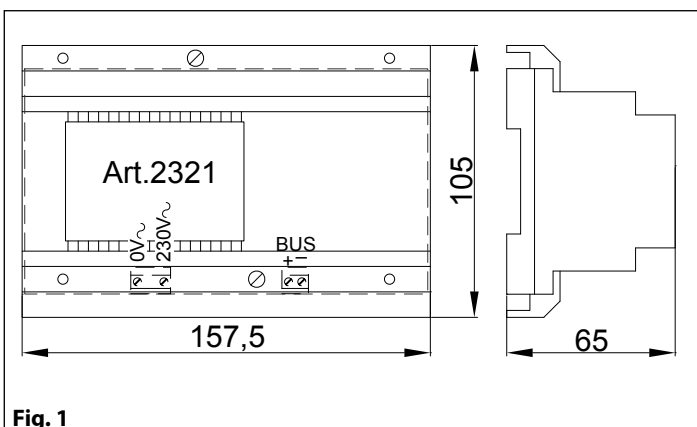

Fig. 1
1. In order to install the videophone, it is necessary to remove the cover, which contains all the electronics, from the base: firstly disconnect the handset from the videophone (by removing its plug from the videophone) then insert a 5.5mm flat screw driver into the clip (A) then rotate clockwise until you listen a "CLICK!". Repeat the same operation with the other clip as shown in Fig. 1.